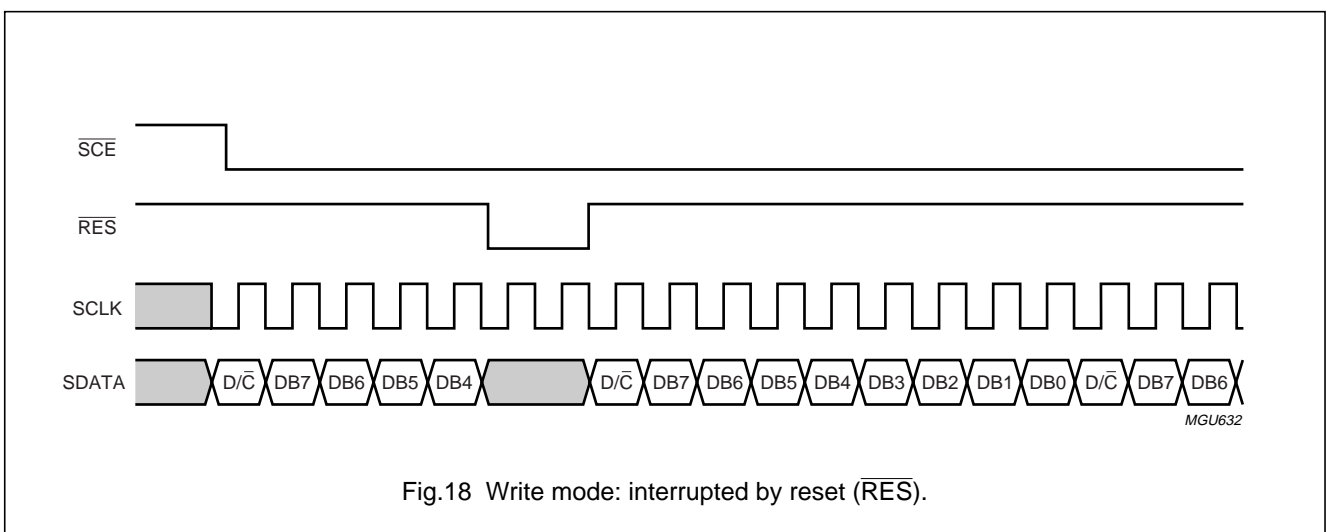

Fig.18 Write mode: interrupted by reset ( $\overline{\text{RES}}$ ).
- A reset pulse with  $\overline{RES}$  interrupts the transmission. The data being written into the RAM may be corrupted. The registers are cleared. If  $\overline{SCE}$  is LOW after the rising edge of  $\overline{RES}$ , the serial interface is ready to receive the  $D/\overline{C}$  bit of a command/data byte (see Fig.18).